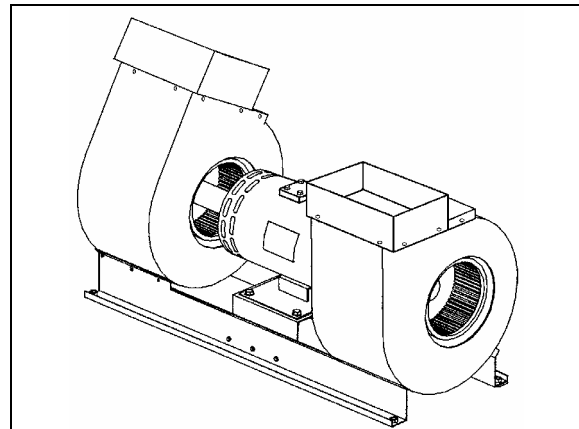

FIGURE 22: EVAPORATOR MOTOR ASSEMBLY 22228
6. From under the vehicle, remove the eight bolts fixing the double blower fan unit base. Remove the complete unit from the evaporator compartment (Figure 22).